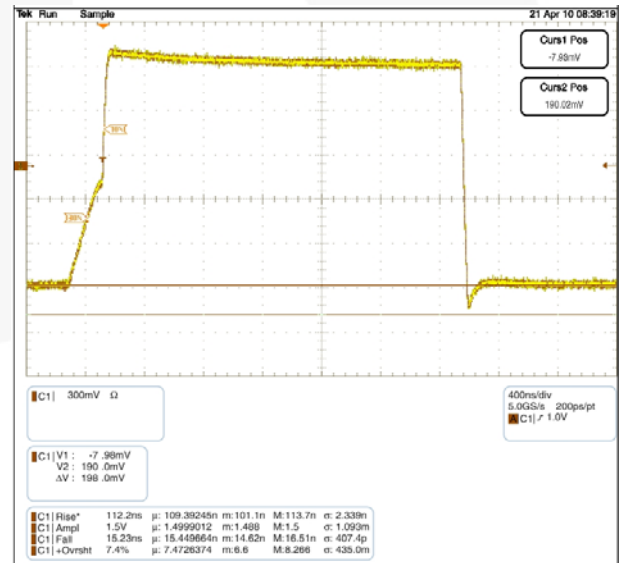

Figure 5. FXMA2102 Waveform C: 600pF, R_{PU}: 2.2K
ports until either of the port's V_{CC}/2 thresholds are reached. After the RC time constant has reached the V_{CC}/2 threshold of either port, the port's edge detector triggers both dynamic drivers to drive their respective ports in the LOW-to-HIGH (LH) direction, accelerating the rising edge. The resulting rise time resembles the scope shot in Figure 5. Effectively, two distinct slew rates appear in rise time. The first slew rate (slower) is the RC time constant of the bus. The second slew rate (much faster) is the dynamic driver accelerating the edge.
The FXMA2102 dynamic drivers have enough current sourcing capability to drive a 400pF capacitive bus. This is beneficial for instances when an I²C buffer / repeater is required. The I²C specification stipulates a maximum bus capacitance of 400pF. If an I²C segment exceeds 400pF, an I²C buffer / repeater is required to split the segment into two segments, each of which is less than 400pF. Figure 5 is a scope shot of an FXMA2102 driving a lumped load of 600pF. Notice the (30% - 70%) rise time is only 112ns (R_{PU} = 2.2K). This is well below the maximum edge rate of 300ns. Not only does the FXMA2102 drive 400pF, but it also provides excellent headroom below the I²C specification maximum edge rate of 300ns.